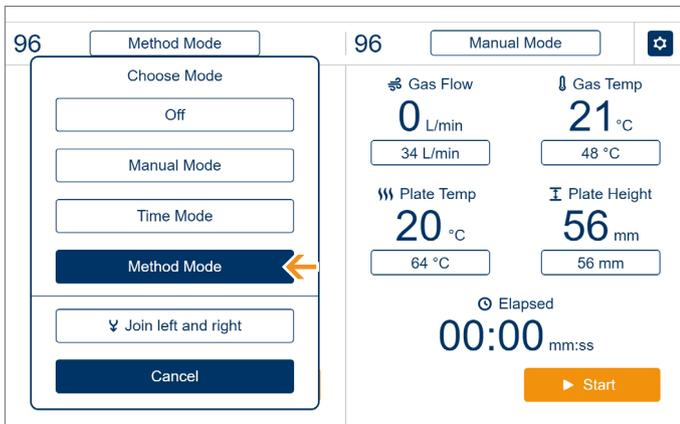

Figure 25. The Evaporation Modes view.
1. Select **Method mode** from the Evaporation Modes view, see Figure 25.